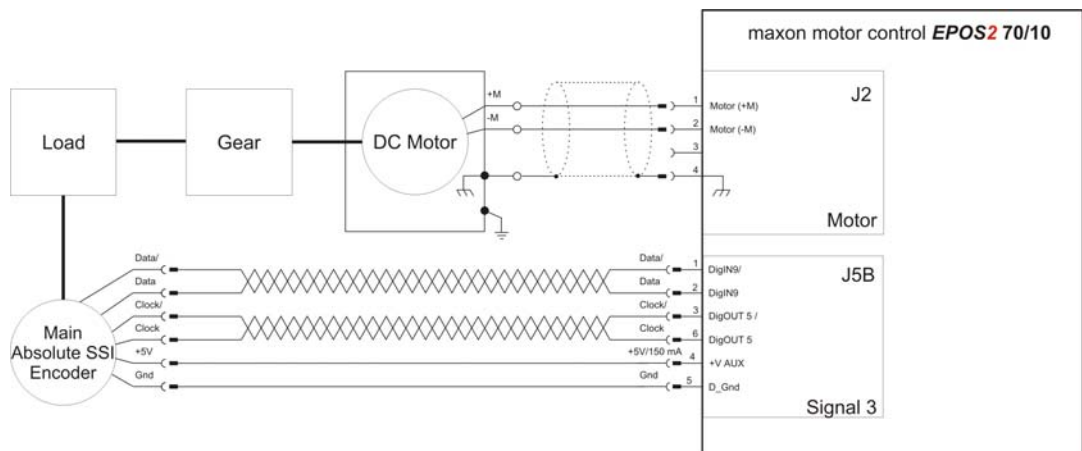

Figure 13-161 Example 1 – Wiring Diagram
- 1) Wire the system according to the wiring diagram (→ Figure 13-161).